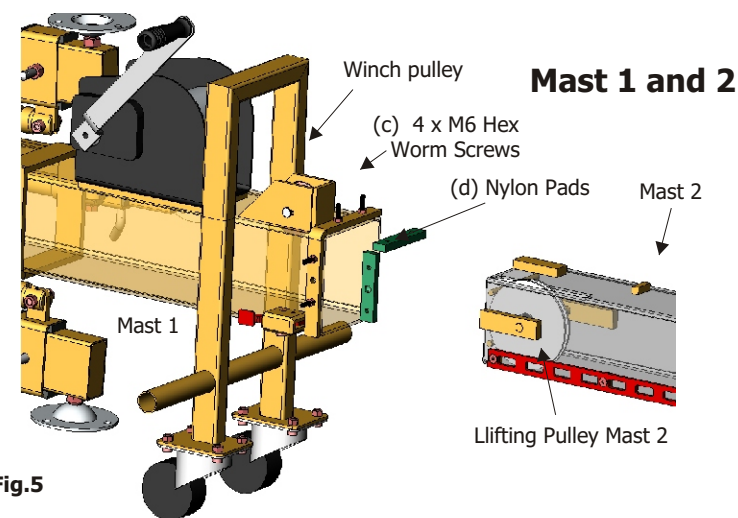

Fig.5
7. On the join of Mast 1 and 2 (see Fig.5) repeat step 4a to 4f and pull out Mast 2 (AlpTek5500 has only 5 Masts)